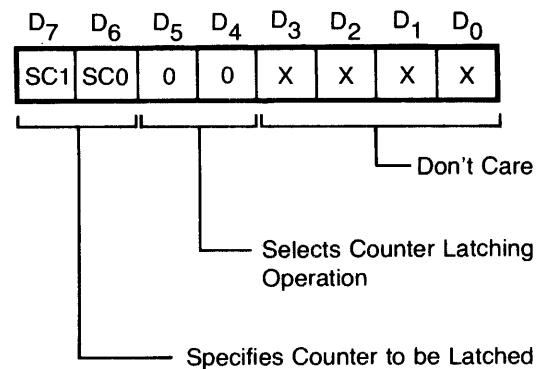

Figure 3-3. PIT Counter Register Latch Control Word Format
- Write counter register latch control word (Figure 3-3) to port D6. Control word specifies desired counter and selects counter latching operation. Bits D0 - D3 are irrelevant.